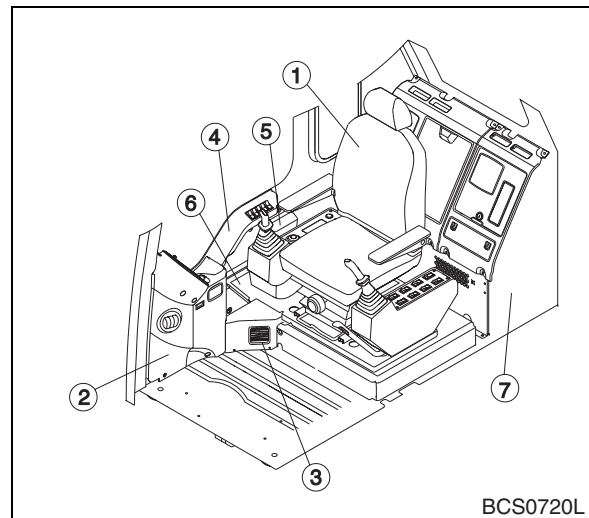

Figure 13
15. Install side panel (6, Figure 13) and pocket (5).
16. Install cover (4, Figure 13) and connect main harness. Install cover (3). Connect hour meter connector and cigar lighter connect of cover (2).
17. Install cover (2, Figure 13).
18. Install operator's seat (1, Figure 13).